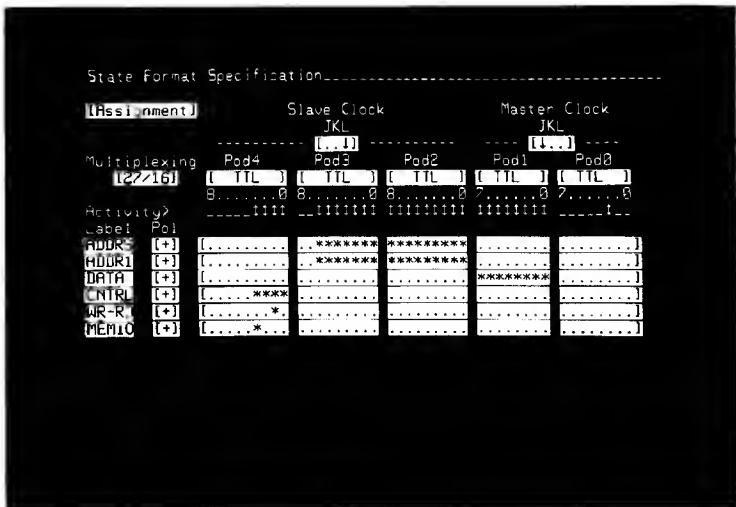

Figure 3-24. State Assignment Format Specification With Labels Added For WR-RD And MEMIO
1. Press the FORMAT key. The State Format Specification for [Assignment] should be on screen. If not, place the cursor into the upper, left-hand field and press the NEXT[] key to obtain the [Assignment] display. See figure 3-24.